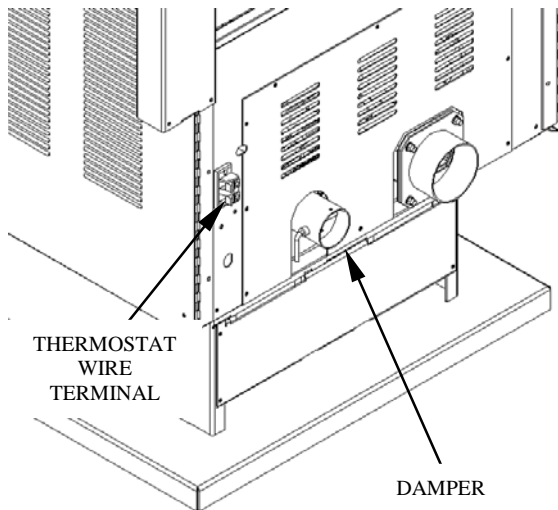

Figure 4
**Your stove is equipped with an air inlet damper. (See Figure 4) This is one of the most**
**Thermostat Control** - Most multi-fuel stoves aren't capable of using a thermostat. This is due to the fact that many fuels do not react very well to sudden increases in the feed rate. A stove that goes from a #1 setting to a #5 setting will almost always have problems making that transition. The burn pot will overload and the fire will go out. The St. Croix corn stove uses a simple time delay between each Heat setting to allow the stove to react to the increase in corn. This allows the stove to function very well on a thermostat. A Milivolt type thermostat will work with this control board. **The stove is not fully automatic when running on a thermostat, when the thermostat is not calling for heat the stove will drop to the low (#1) setting as a pilot.** For location to connect the thermostat wires see Figure 4 on page 10.